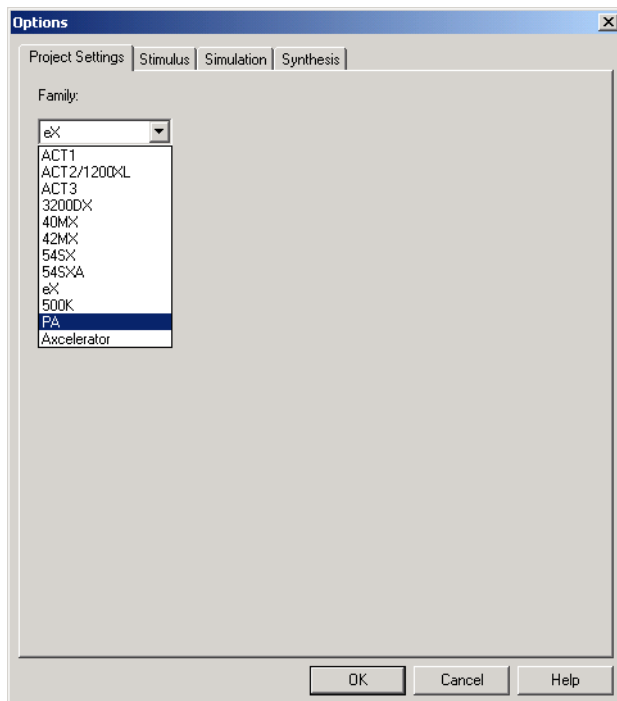

Figure 3-6. Changing the Device Family
1. **From the Tools menu, click *Options*. The Options dialog box appears, as shown in Figure 3-6.**